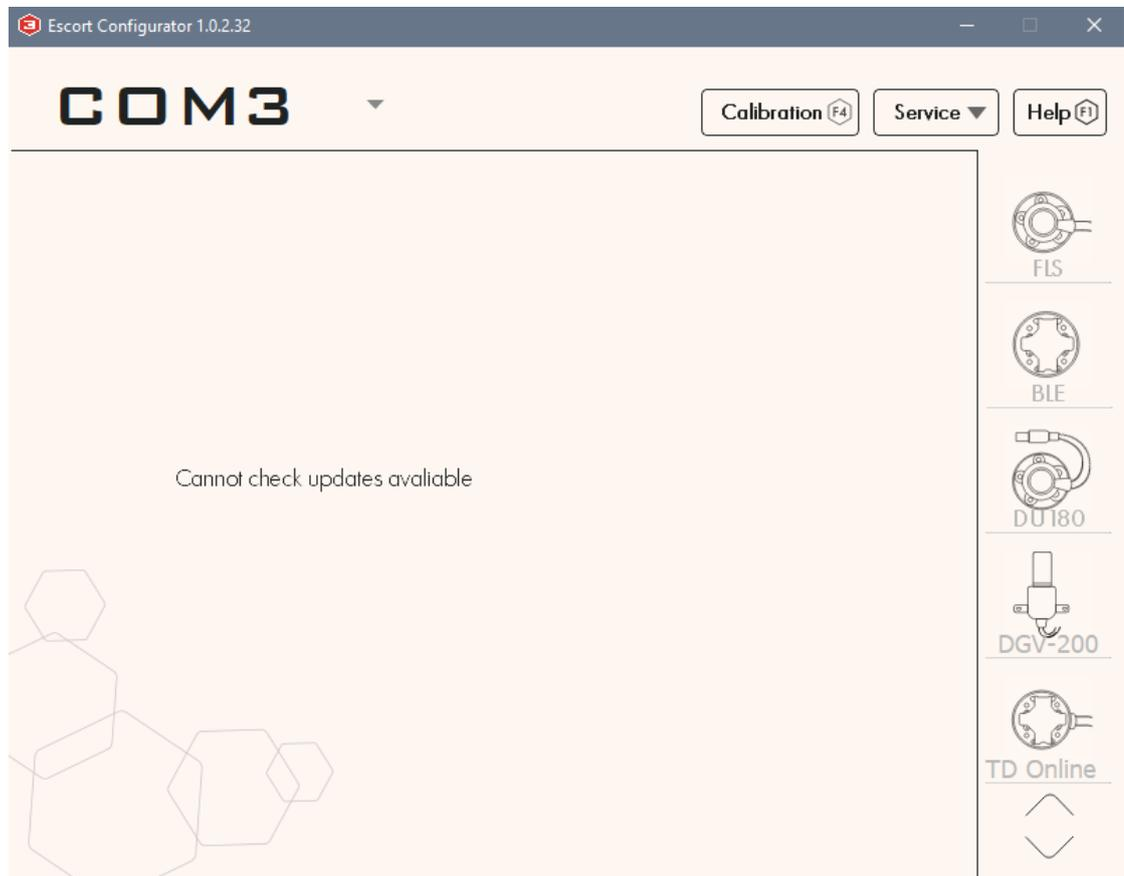

Fig. 11.1. Open the **BLE** section
2. Fire up the configurator program for the PC, select the COM port with the number that corresponds to the C-200M, click BLE (Fig. 11.1.)